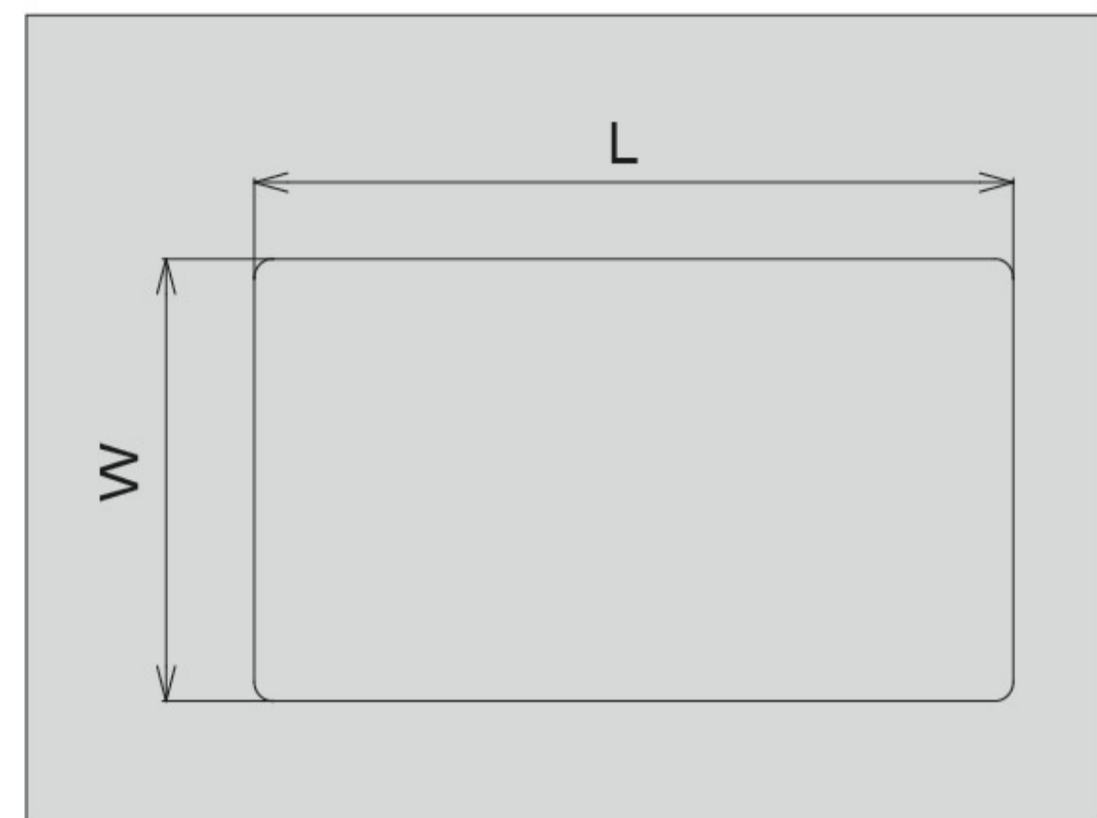
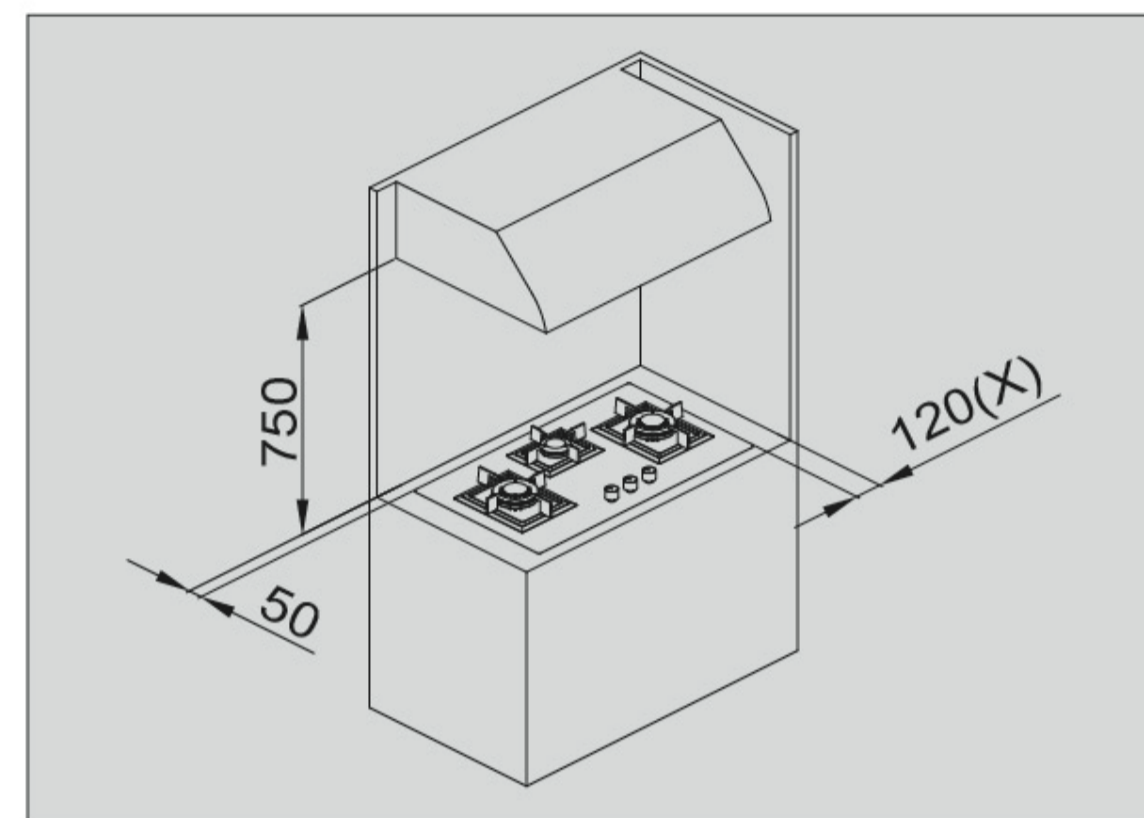

figure 1
figure 2
Create an opening with the dimensions 816mm(L)X460mm(W) shown in the figure 1. On the work surface, observing a minimum distance of 50mm from the rear edge. This appliance can be installed next to walls that are higher than the work surface, as long as the distance "X" is kept between the appliance and the wall, as shown in the figure 2, to avoid damage from overheating. Make sure there is a minimum of 750mm between the work surface and the range hood that may be installed directly above them (figure 2).